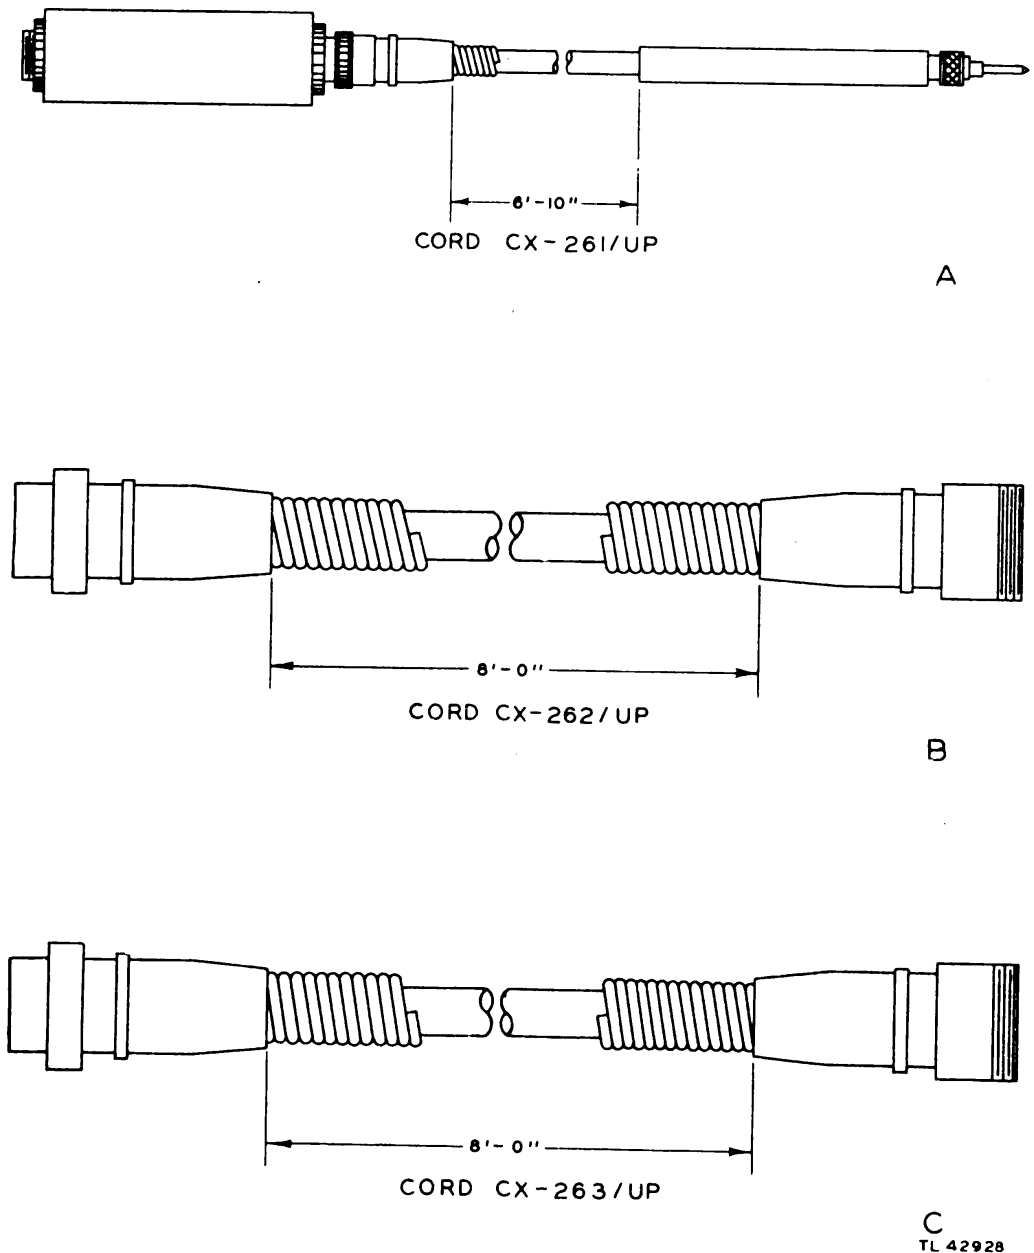

Figure 18. Details of Cords CX-261/UP, CX-262/UP, and CX-263/UP.
(1) Range Indicator BC-1088 to Range Rectifier RA-72.
(2) Range Indicator BC-1088 to Data Panel PN-22.
(3) Plan Position Indicator BC-1092 to Plan Position Rectifier RA-69.
u. Cord CX-261/UP (fig. 18-A). This cord is a 6-foot 10-inch length of single-conductor cable type CW-1125 as made by General Electric Company, or the equivalent. It is terminated at one end with a test prod ICA No. 390B and at the other end with a special connector assembly. This cord is used with the test oscilloscope.
v. Cord CX-262/UP (fig. 18-B). This cord is an 8-foot length of single-conductor cable type 8421 as made by Belden Manufacturing Company, or the equivalent. It is terminated at one end with a plug Amphenol No. 80M and at the other end with a plug Amphenol No. 80F. This cord is used to connect Remote Video Amplifier BC-1074 to Range Indicator BC-1088.
w. Cord CX-263/UP (fig. 18-C). This cord is an 8-foot length of single-conductor cable type 8421 as made by Belden Manufacturing Company, or the equivalent. It is terminated at one end with a plug Amphenol No. 80M1 and at the other end with a plug Amphenol No. 80F1. This cord is used to connect Field Rectifier RA-71-B to Plan Position Unit BC-1058.